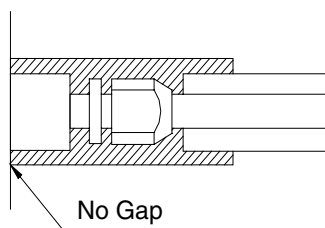

Fig.9.15
2. The joint connecting to the indoor unit must be wrapped by thermal insulation material. There shall be no gap between the refrigerant pipe joint and the wall of the indoor unit. Refer to Fig. 9.15.